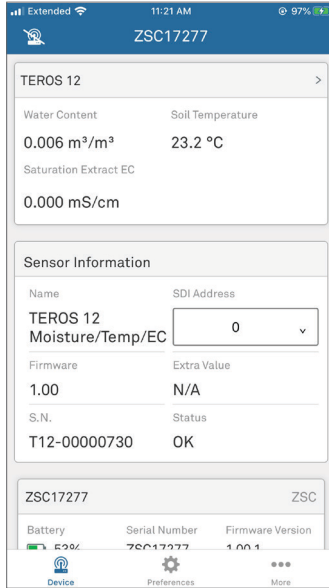

Figure 10 Select Preferences
1. Select Preferences at the bottom of the Measurement screen (Figure 10).